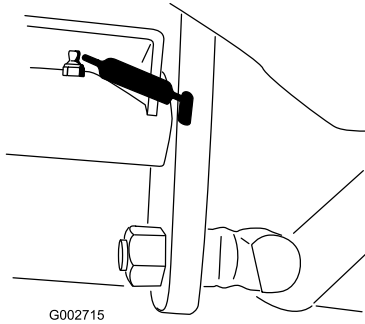

Figure 23
- Traction-pedal pivot (1) (Figure 23)